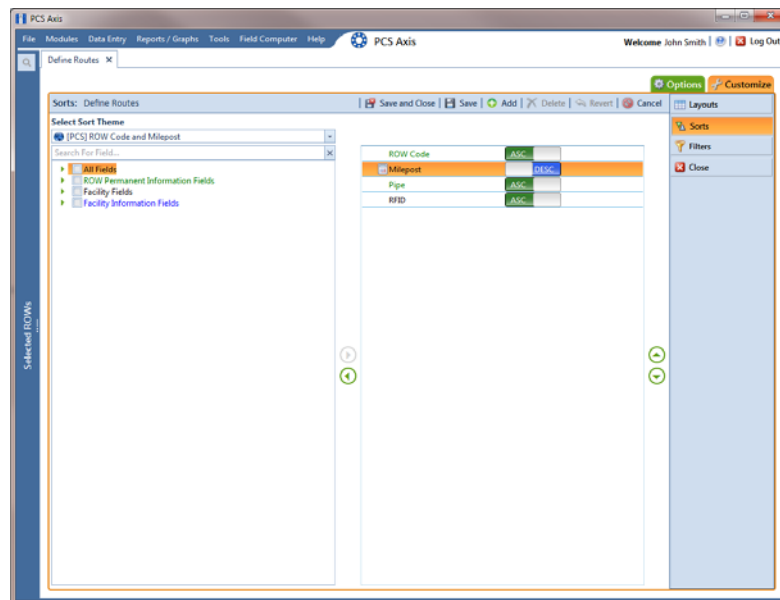

Figure 8-45. Sorts
- 3 Click the **Customize** tab , then the **Sorts** button  to open the *Sorts* page (Figure 8-45, page 400).